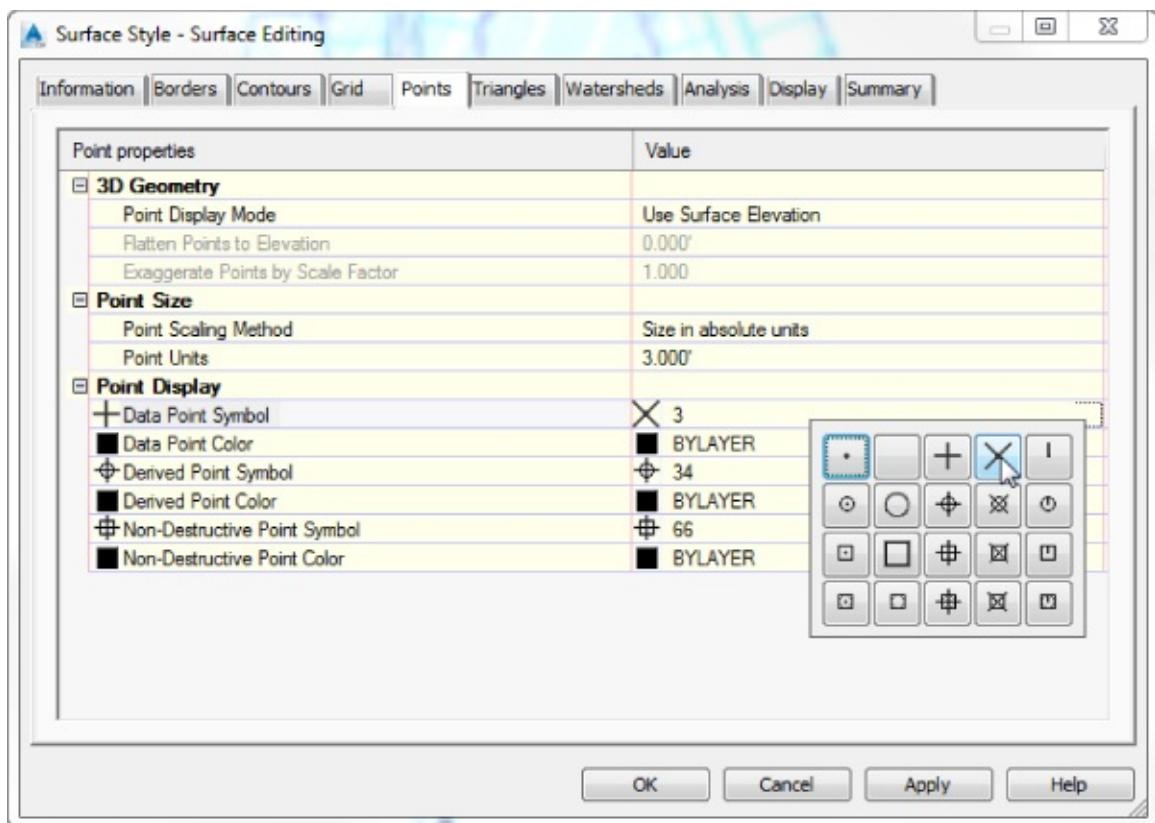

Figure 19.28 Change the Point Display symbol so the points stand out within the style.
- c. Set the point type to the X symbol, as shown in Figure 19.28.